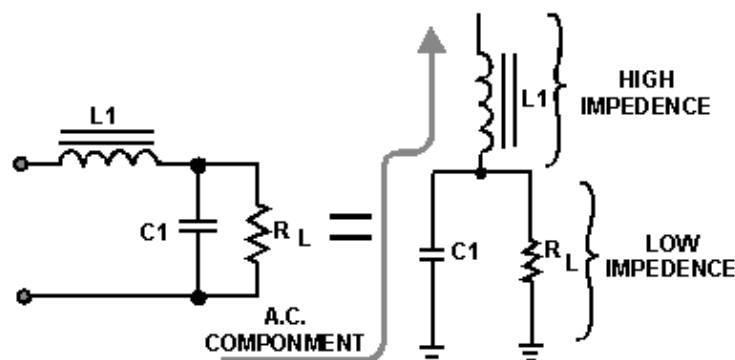

Figure 3-30.—LC choke-input filter (as voltage divider).
The series inductor (L1) and the capacitor (C1) form a voltage divider for the ac component (ripple) of the applied input voltage. This is shown in figure 3-30. As far as the ripple component is concerned, the inductor offers a high impedance (Z) and the capacitor offers a low impedance. As a result, the ripple component (E_r) appearing across the load resistance is greatly attenuated (reduced). Since the inductance of the filter choke opposes changes in the value of the current flowing through it, the average value of the voltage produced across the capacitor contains a much smaller value of ripple component (E_r), as compared with the value of ripple produced across the coil.